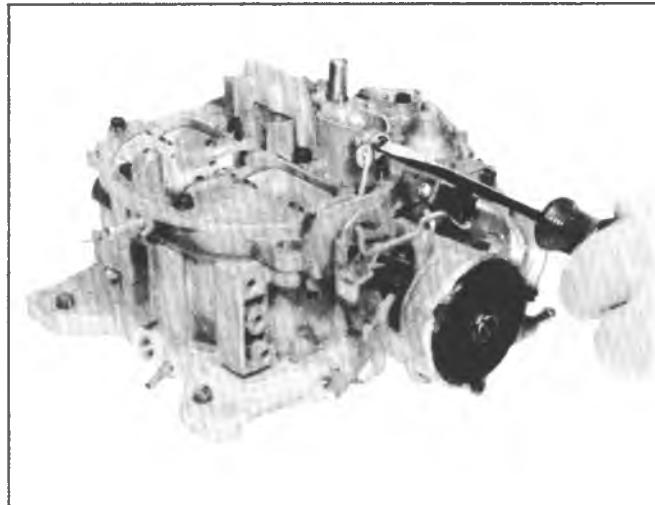

Fig. 6C4-51—Choke Lever and Housing
6. Connect check rod into lower choke lever inside bowl cavity; they install choke rod into slot in upper choke lever and retain the choke lever to the end of the choke shaft with attaching screw. Tighten securely. When properly installed, the lever will point to the rear of the carburetor and the number on the lever will face outward (Fig. 6C4-51).